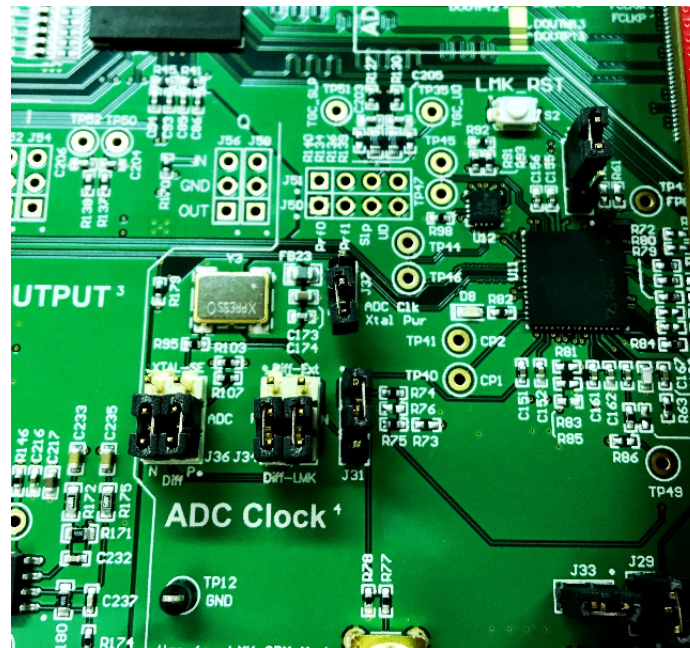

Figure 13. Clock Configuration on AFE EVM for LVDS
1. Verify the clock configuration by matching J36, J34, J31, and J37 to Figure 13.